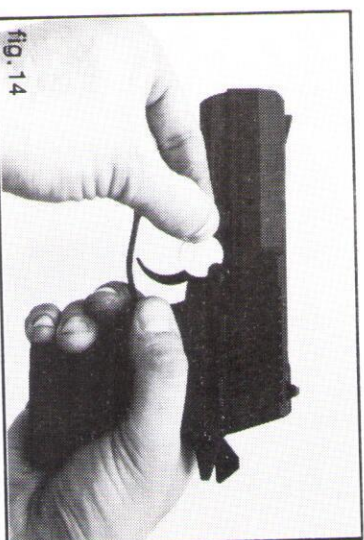

fig. 14
4. Use a coin (a quarter) or a screwdriver as a lever (fig. 14) to extract the slide catch from the frame (fig. 15).